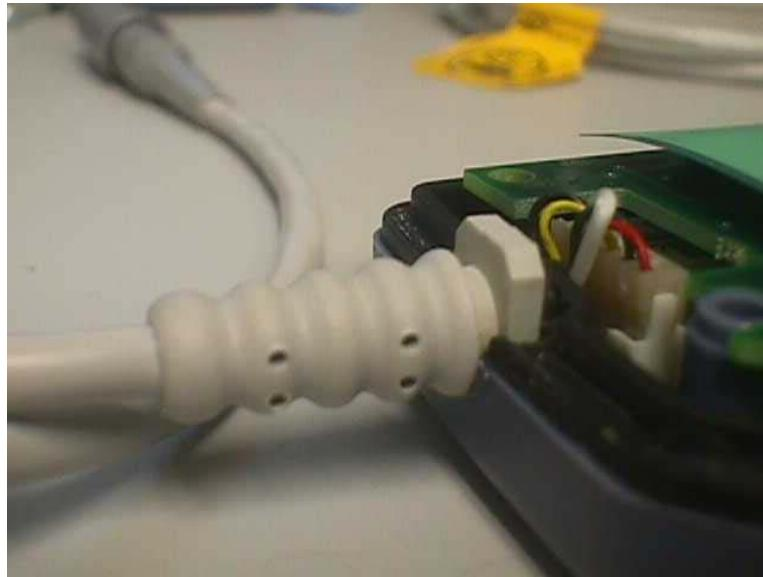

Figure 7-6 Verify that the strain relief is fully secured in its recess.
6. Align and position both cables into gasket cable passage and strain-reliefs into their cutouts. See Figure 7-6.